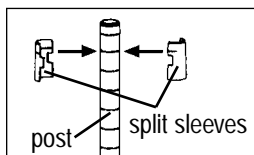

Figure 2a
A. Stand the post/frame assembly upright, and snap the split sleeves onto each post at the 1st groove from the top (see Figure 2a).